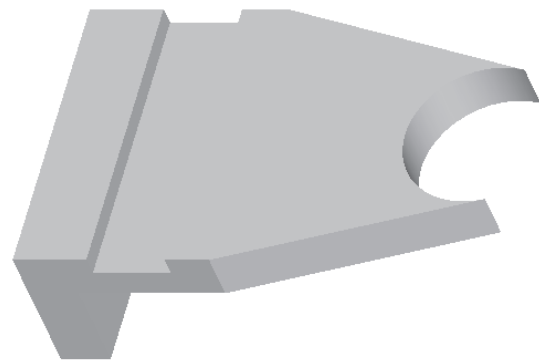

Figure 5-96 Model with the second extruded feature
4. Now, choose the **Build feature** button to confirm the feature creation. The default trimetric view of the extruded feature is shown in Figure 5-96.